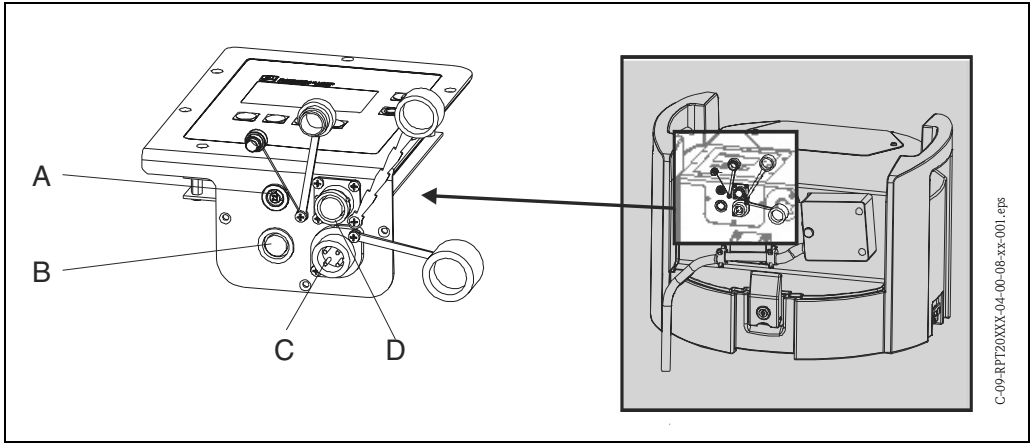

Fig. 4: Unit electrical connection
4.1.1 Signal cable connections (→ Fig. 4, pos. B)
4.1.2 Connecting the RS232 interface (→ Fig. 4, pos. A)
4.1.3 Connecting the battery charger (→ Fig. 4, pos. C)
4.1.4 Multi-parameter probe connection (optional; → Fig. 4, pos. D)